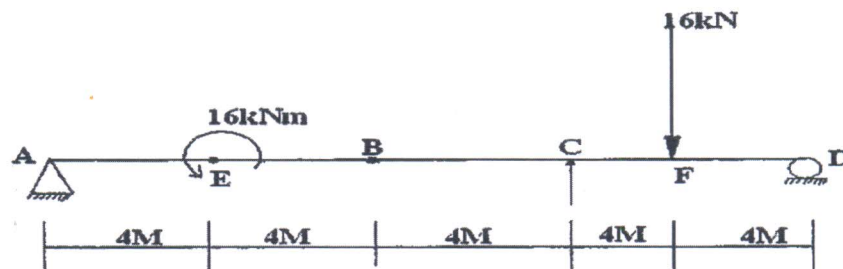

Fig. 3
3. (a) A beam ABCD has an internal hinge at B and is loaded as shown in fig. Determine the reaction at A, C, and D. Also plot shear force and bending moment diagrams indicating principal values (Fig. 3) [8]